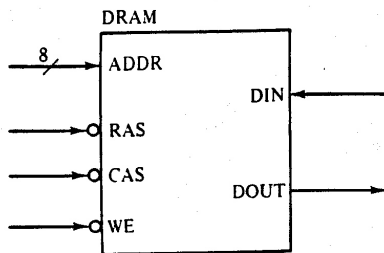

Figure 6.45 Dynamic RAM for Problem 6.32.
- 6.32. Consider the dynamic RAM of Fig. 6.45 that functions similarly to the one shown in Fig. 6.30(b).